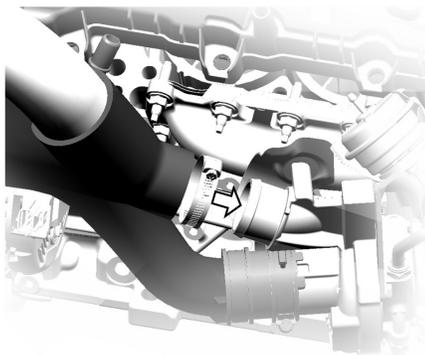

Figure 3
1. Install a **1.875” X 2.25” X 45° Hose Coupler** onto the driver-side turbo outlet using a **#36 Hose Clamp**. Do not tighten the clamp yet. **Refer to Figure 3**
6. Insert the top end of the **LHS Lower Intercooler Pipe** into the **2.25" to 2.5" Hose Coupler** with a **2.5" Hose Clamp** (Refer to **Figure 3**), and the bottom end into the **2.5" X 4" Hump Hose Coupler** with another **2.5" Hose Clamp**. Do not fully tighten the clamps yet.